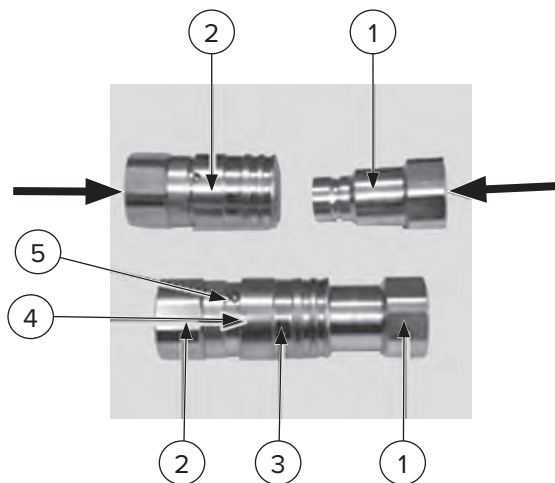

Figure 5
1. Push the male coupler [Figure 5, Item 1] into the female coupler [Item 2] until it clicks into place in the ring nut [Item 3].
**NOTE:** Figure 5 shows flat-faced quick couplers with a snap-fastening safety ring nut.
- Turn the ring nut [Figure 5, Item 3] so that the notch [Item 4] lines up with the spherule [Item 5]. Push the ring nut [Item 3] towards the spherule [Item 5] to disconnect the quick coupler.